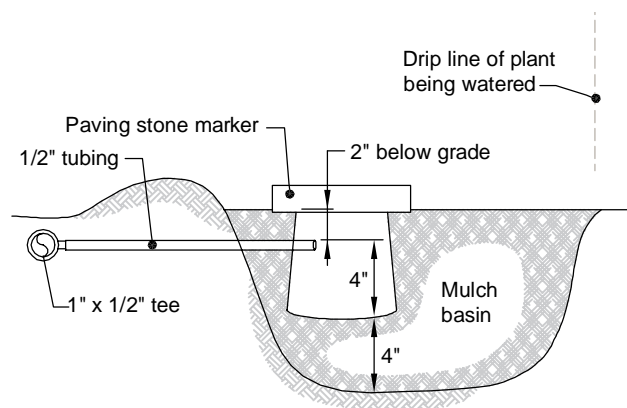

Figure 4. Mulch shield placement.
3. Make or buy a “valve box” or “mulch shield” for each graywater outlet (Figure 4). Mulch shields can be made out of 1- or 3-gallon flower pots. Put the pot upside down (so the bottom is on top) and make a “lid” by cutting the bottom of the pot so that it can be flipped up like a lid on a can (leaving a section intact to hold the “lid” in place). Drill a hole 2 inches below the “lid” for the graywater tube to enter. Then cut off the rest of the pot 4 inches below the hole you made for the graywater tube. If a more sturdy shield is needed, a valve box can be purchased and altered in a similar way.